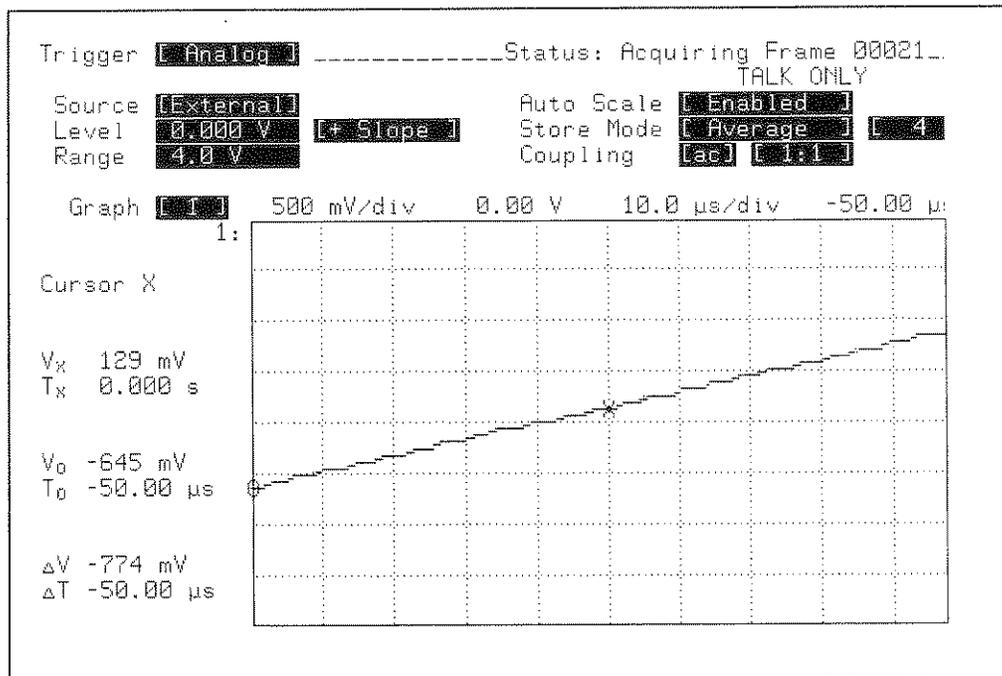

Figure 9-14. DISPLAY Waveform
3. Display the TRIG channel. The triggered waveform should appear similar to figure 9-14.